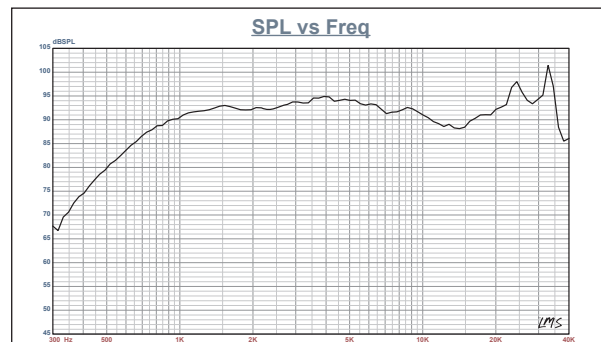

Figure 2: Accuton C30-6-358 on-axis response
2.83 V/1 m. **Figure 2** shows the on-axis response to be a flat ± 1.9 dB from 1.8 kHz to 10 kHz, with the diaphragm breakup modes beginning at about 25 kHz.